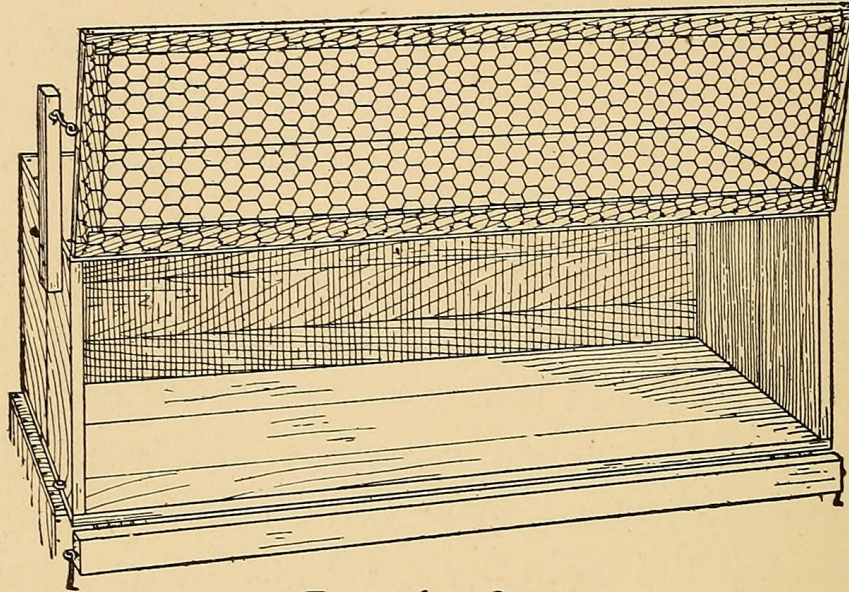
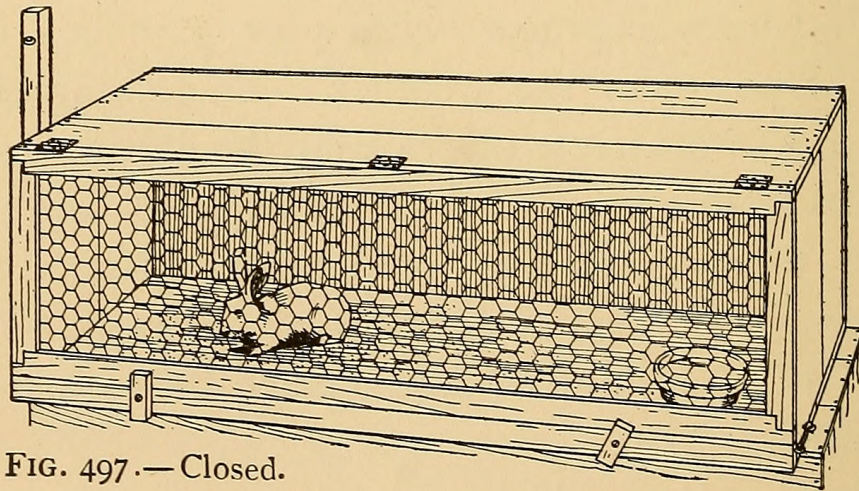

FIG. 496. — Open.
FIG. 497. — Closed.
**The Rabbit-hutch** shown in Figs. 496 and 497 may be constructed out of a box or built out of new boards, whichever is the more easily obtained. The box should be about 4 feet long, 14 inches wide, and 20 inches deep.
FIGS. 496 and 497. — A Rabbit-hutch.
hinge it to the top edge of the hutch with three 2-by-2-inch steel butts. Then cut a strip of just the length of the box and 2 inches wide, and hinge it to the bottom directly below the frame with a pair of 2-by-2-inch butts. Screw a hook into each end of the strip, and fasten a screw-eye or nail into each end of the box in the proper place for the hook to catch on to. Cut a couple of wooden buttons, bore a hole through the center of each large enough for a screw to slip through, and screw them to the bottom hinge-strip about 12 inches from the ends for button catches to hold the wire frame closed (Fig. 497). The hinge-strip is provided to keep the sawdust, or other floor covering, from dropping out of the hutch every time the front is opened, and it is hinged in place so it may be dropped as shown in Fig. 496 when cleaning out the hutch, to make easier the work of removing the old sawdust. To hold open the front while cleaning, nail a strip of wood to one end of the hutch, and fasten a hook in the edge of the frame and a screw-eye in the proper position in the stick for it to hook into, as shown in Fig. 496.